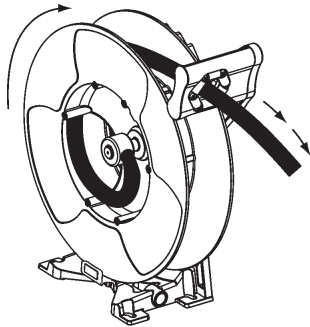

Fig. 11
1. Pull the hose out 10 feet (3 metres) and let the hose reel latch (fig. 11).